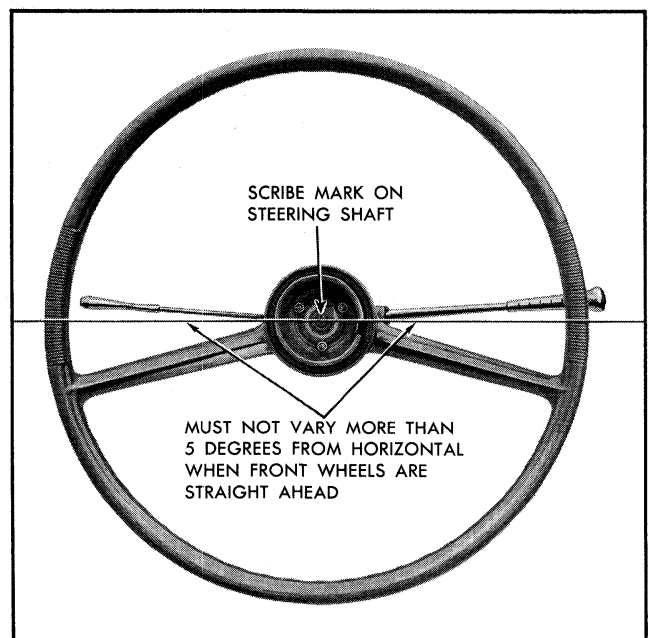

Fig. 9-7 Locating Steering Wheel Position
8. To replace, reverse the above procedure, making sure steering wheel is in straight ahead position (Fig. 9-7). Tighten steering wheel nut to 20-35 lb. ft. torque and stake.